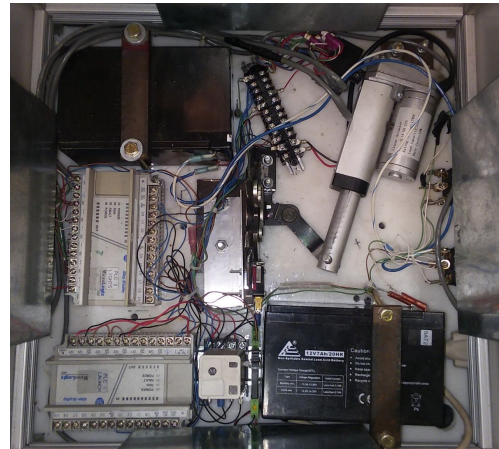

Figure 1
- c. Darrick was in charge of testing wiring within the main part of the robot which is displayed in Figure 1. He accomplished connections between the batteries the wiring distributors to the mechanisms. This figure shows the internal components which the bot: upper left corner and lower right corner are the 12 Volt batteries that control the internal components, the upper right corner is the actuator that controls the releasing mechanism for the basketball hopper, there is various wiring that controls the side lighting and and the actuator.